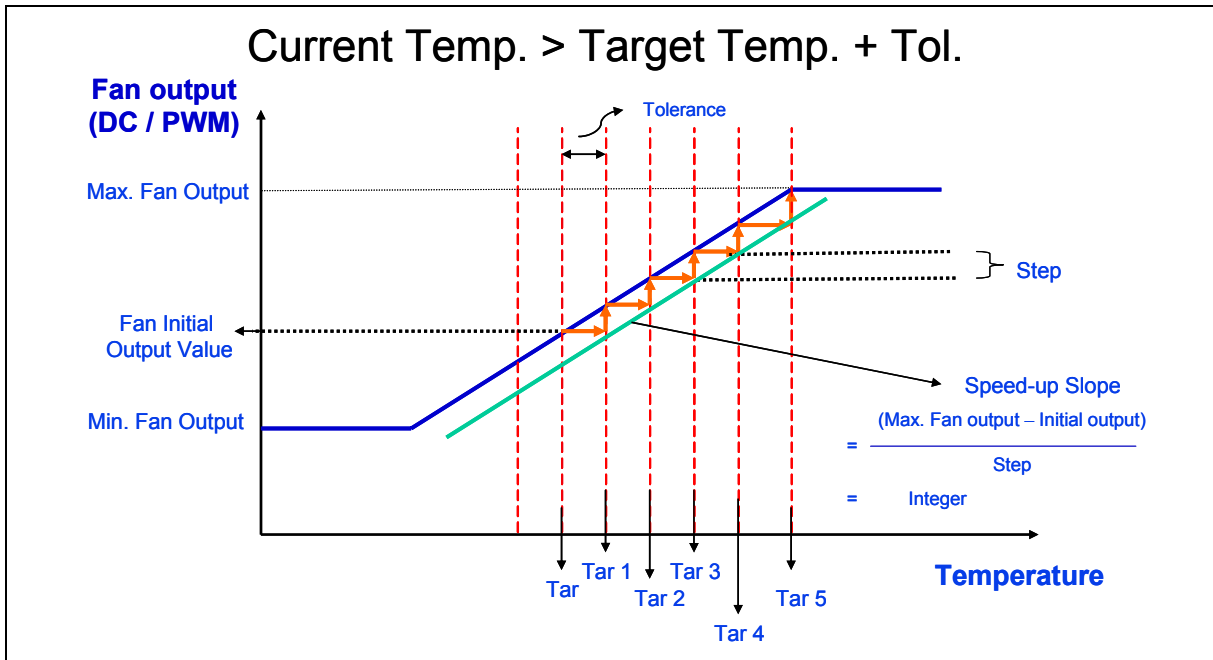

Figure 6.10
- (2) In the case that currently measured temperature goes beyond (Target Temperature + Temperature Tolerance), which is shown in Figure 6.10, fan speed jumps up to the next step. "Step" here refers to the value in the CPUFANOUT Output Value Select Register, Bank0 Index03h or Index61h.
- (3) Meanwhile, original Target Temperature dynamically shifts to (Target Temperature + Temperature Tolerance), and new Target Temperature, named Target Temperature 1, is formed. In other words, Target Temperature 1 equals original Target Temperature plus Temperature Tolerance.
- (4) If the currently measured temperature is within the (Target Temperature 1 \pm Temperature Tolerance) then, the fan speed remains constant. Otherwise, fan speed jumps up to the next step again. Target Temperature then dynamically shifts to (Target Temperature 1 + Temperature Tolerance), and new Target Temperature again, named Target Temperature 2, is formed.
- (5) The fan-speed-up and Target Temperature comparison-then-shift process continue until currently measured temperature locates within (Target Temperature X \pm Temperature Tolerance), or fan output speed reaches its maximum speed.
- (6) Please be noted that “Speed-up Slope” shown in the Figure 6.10 must be an integer. In other words, $\frac{Max.FanOutput - InitialOutput}{Steps}$ must be an integer; otherwise, it may lead to register overflow.